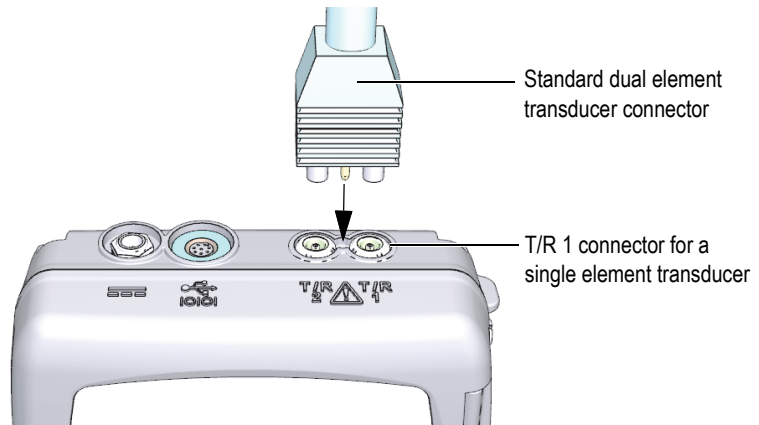

Figure 5-1 Plugging the transducer
1. Plug the transducer into the transducer connector(s) at the top of the 39DL PLUS case (see Figure 5-1 on page 78). Use T/R 1 for a single element transducer.